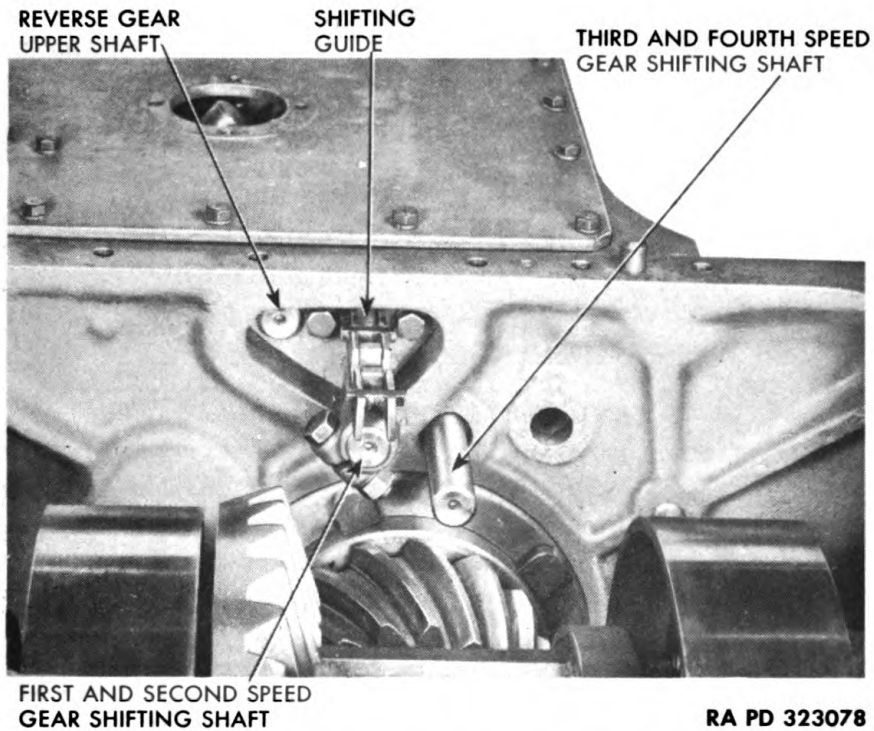

Figure 78 — Location of Shifting Guide Attaching Screws
l. Remove Transmission Shifting Guide. Remove cap screw, lock washer, and nut clamping reverse gear upper shifting shaft front head to shaft (fig. 72). Lift up driver's seat bottom plate, and remove back rest plate. Remove four cap screws and lock washers attaching transmission reverse gear intermediate shifting shaft bearing to top of transmission cover. Lift bearing from cover and shaft. Working through opening in transmission cover, turn reverse gear upper shifting shaft rear head to disengage it from reverse gear intermediate shifting shaft (fig. 77). Reach in back of transmission and remove two cap screws attaching shifting shaft sealing plate. Push reverse shifting shaft back flush with differential housing, and at same time remove reverse shifting shaft front head. Remove cap screw, nut, and lock washer clamping third and fourth speed gear shifting shaft head to shaft, and remove head (fig. 72). Remove two cap screws and lock washers attaching shifting guide to rear of transmission case (fig. 78). Push first and second speed gear shifting shaft and head to the rear, or into second gear.